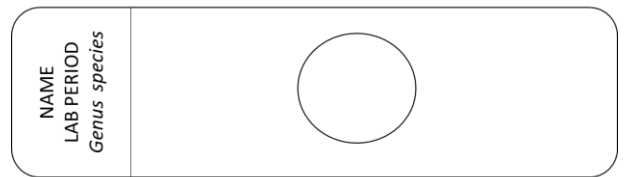

Figure 2.2: A properly labeled slide.
- ☐ Using a wax pencil, label your slides as shown in Figure 2.2. *Draw one circle on the bottom/underside of the slide.*